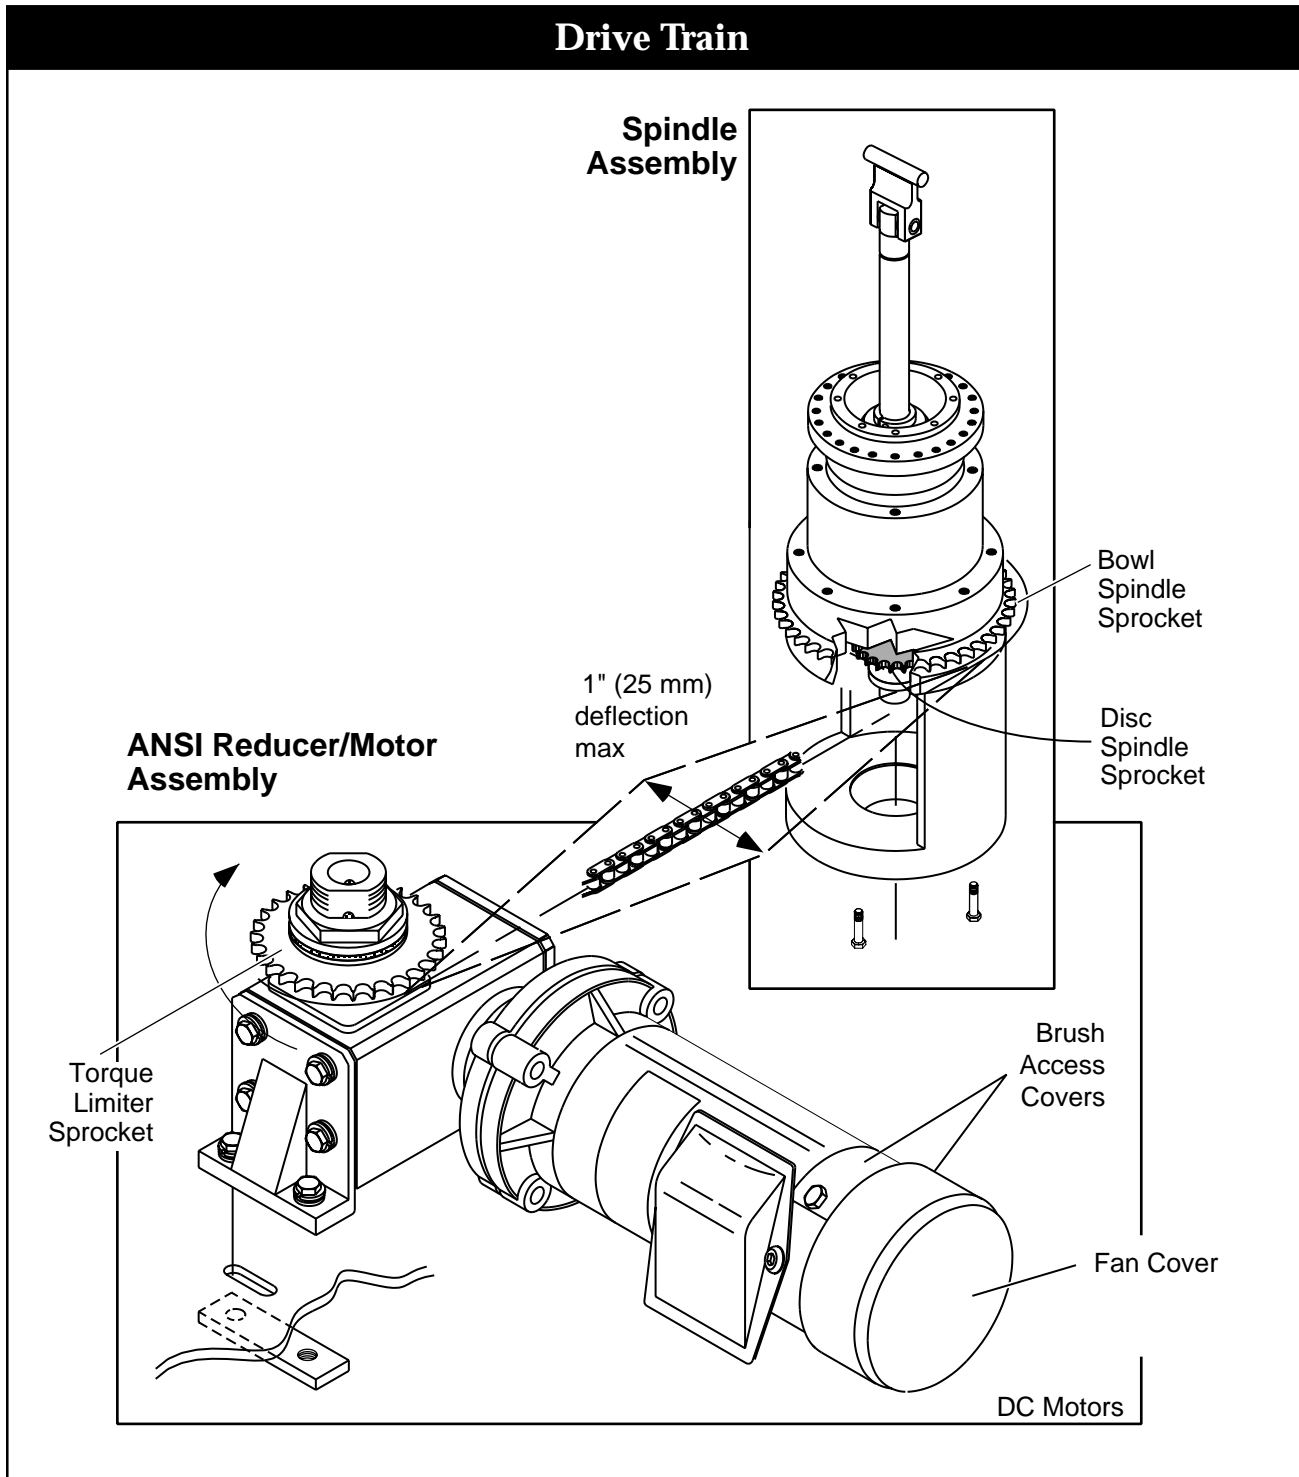

Figure 4-3. FT-30-RD Drive Train (DC Motor)
Step 2—Inspect Drive Chain. Midway between the sprockets, grasp the chain and move it back and forth. You should not be able to move it more than 1" in either direction. If it moves more than 1", adjustment is required (see Figure 4-3.) If adjustment is needed:
Step 6—Replace Chain. Replace chain and inspect chain tension (refer to Figure 4-3).
Step 3—Adjust Vertical Runout. Attach a dial indicator to the inside of any upper frame support. Set the indicator contact point vertical on the rim of the bowl, up to $\frac{1}{4}$ " (6 mm) from the bowl's upper inside diameter (ID). Loosen jam nuts and locknuts above and below each arm of the bowl spider one arm at a time. Repeat as often as necessary while checking runout. Do not tighten jam nuts until Step 4.
Step 7—Replace Chain & Covers. Install bowl drive chain. Inspect chain tension (see Figure 4-3). Replace covers and reconnect power and air.